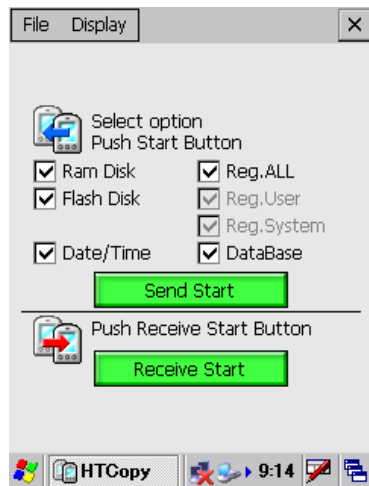

Fig. 3.108
1. Enable each checkbox in Fig. 3.108 you wish to copy its content to other terminals, and then tap **Send Start** button.